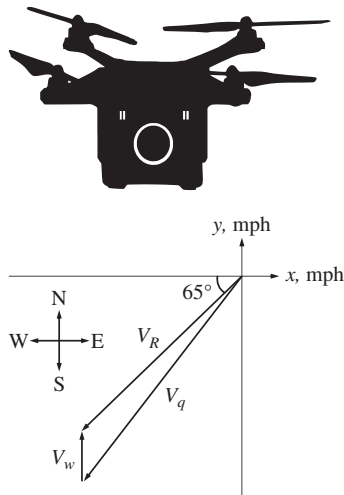

Figure P4.19 Resultant velocity of a quadcopter drone.
- 4-19.** A quadcopter drone flies 65° south of west at $V_q = 150$ mph against a partial headwind that is blowing due north at $V_w = 35$ mph, as shown in Fig. P4.19.